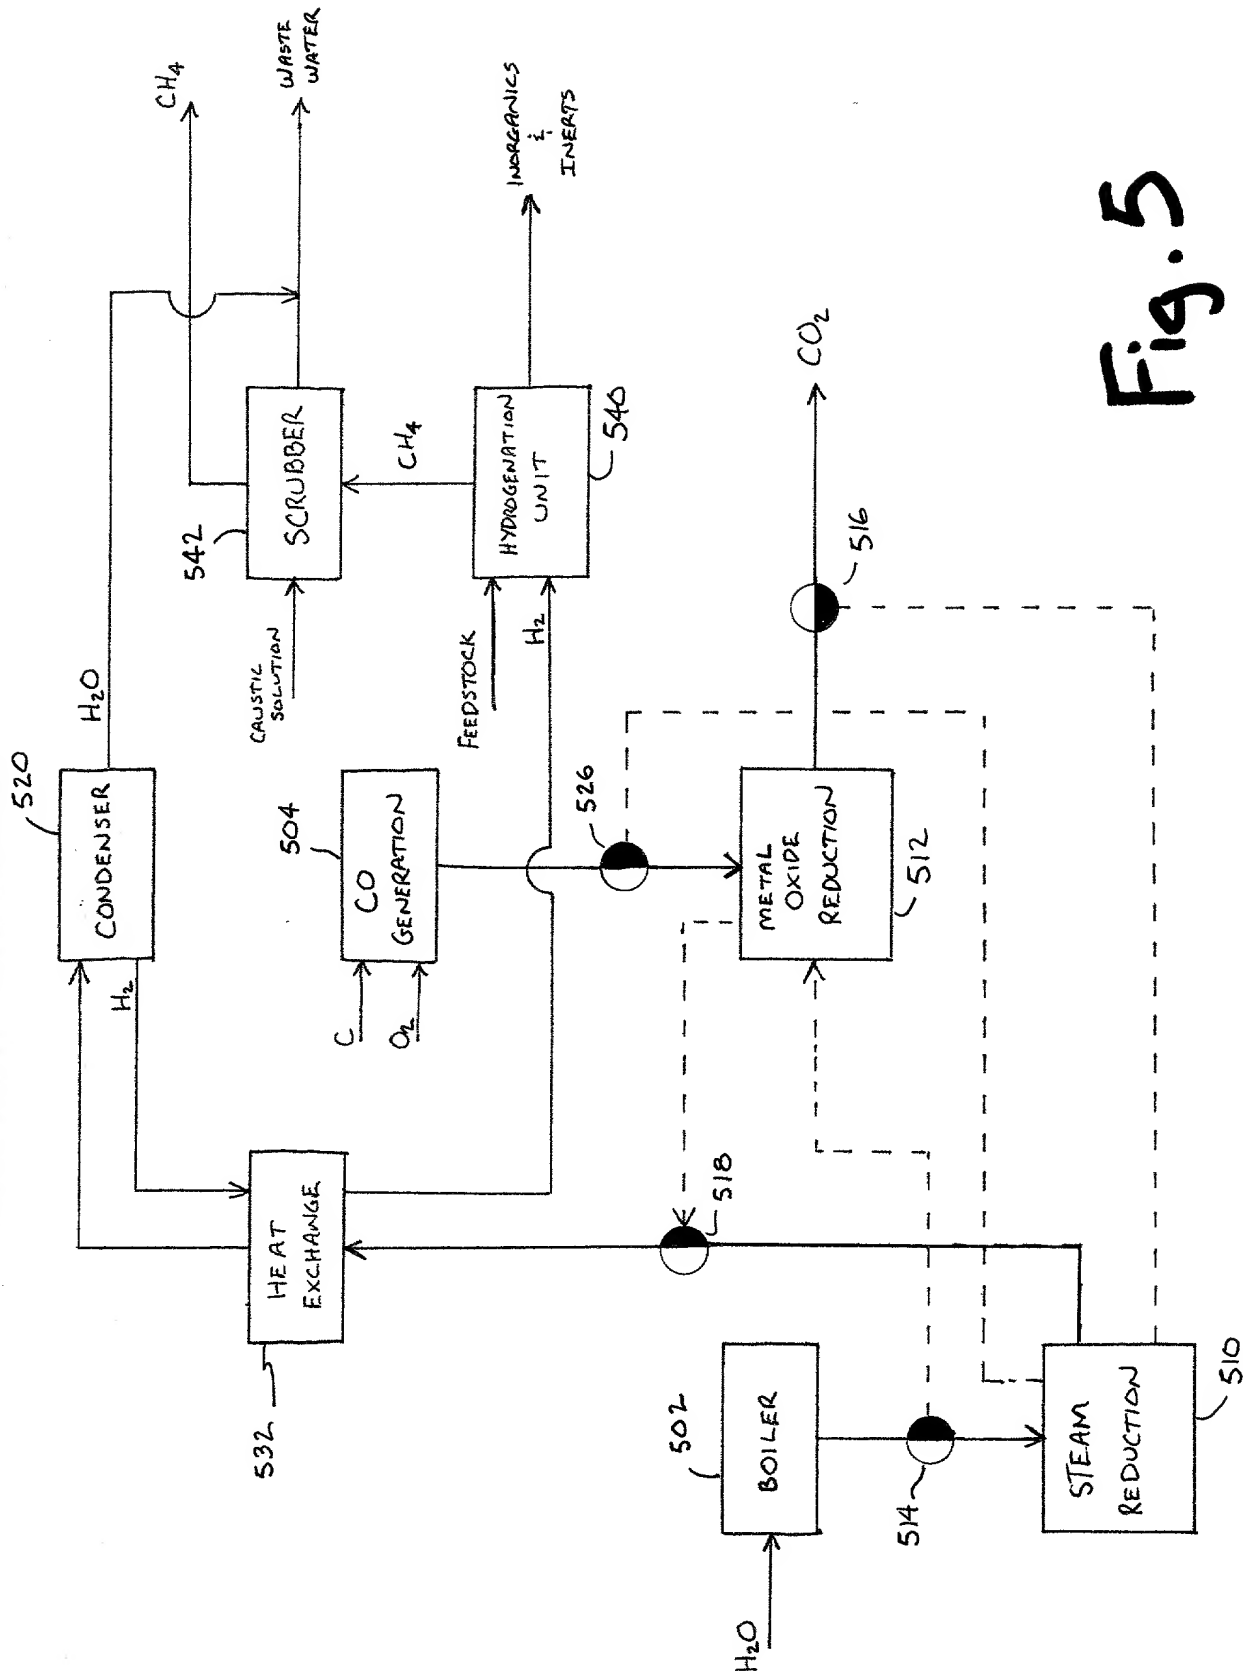

Fig. 5
FIG. 5 is a schematic diagram of a process for the production of hydrogen gas from a feedstock. The process includes a feedstock input to a hydrogeneration unit (540), which produces hydrogen gas (H₂) and inorganics/inerts. The hydrogen gas is fed into a CO generation unit (504), which also receives carbon (C) and oxygen (O₂). The CO generation unit produces CO, which is then fed into a metal oxide reduction unit (512). The metal oxide reduction unit produces CO₂ and a stream (516) that is fed into a steam reduction unit (510). The steam reduction unit produces steam (H₂O), which is fed into a boiler (502). The boiler produces a stream (514) that is fed into the metal oxide reduction unit. The metal oxide reduction unit also produces a stream (518) that is fed into a heat exchanger (532). The heat exchanger produces a stream (520) that is fed into a condenser (520). The condenser produces H₂O, which is fed into a scrubber (542). The scrubber produces CH₄ and waste water. The scrubber also receives a caustic solution. The hydrogeneration unit (540) also receives a feedstock input.